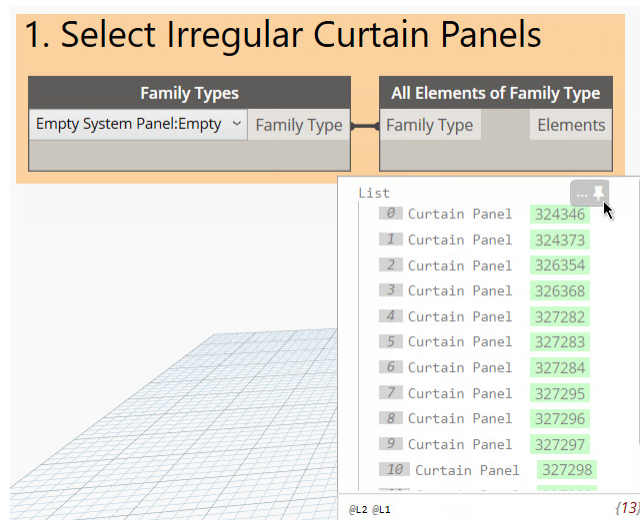

FIGURE 94
13. Group these two nodes and name the group: **1. Select Irregular Curtain Panels** (see Figure 94).